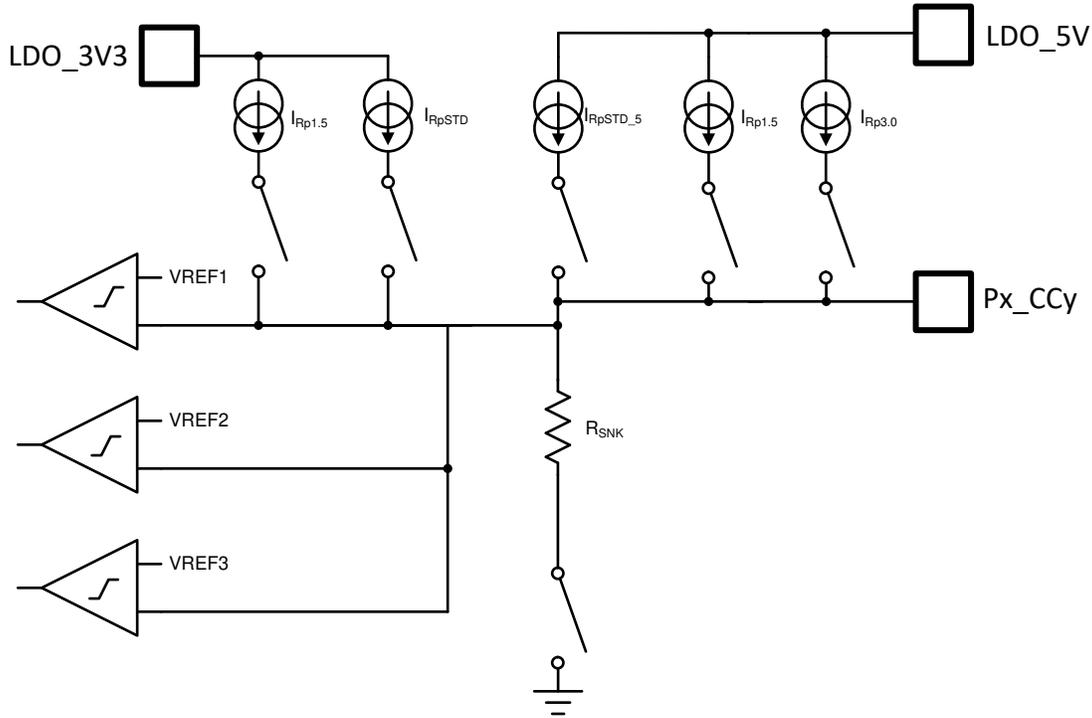

图 9-27. Plug and Orientation Detection Block
**图 9-27** shows the plug and orientation detection block at each Px\_CCy pin (PA\_CC1, PA\_CC2, PB\_CC1, PB\_CC2). Each CC pin has identical detection circuitry.